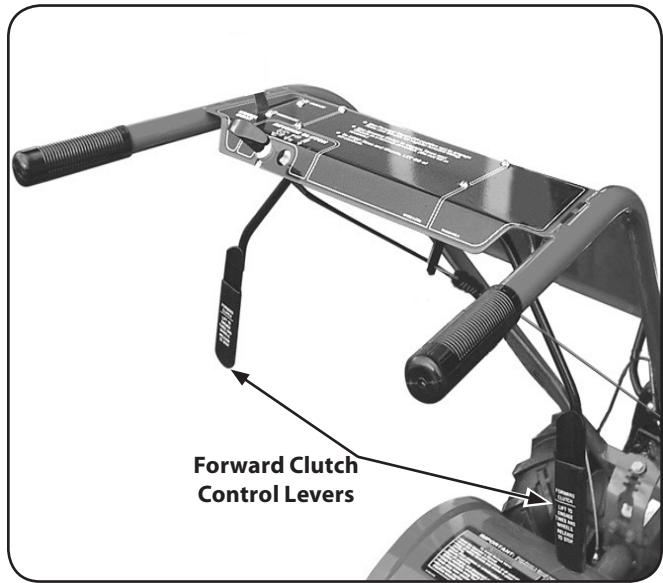

**Figure 3-5**
1. Carefully unwrap the reverse clutch control cable from its shipping position and route it up along the inside edge of the left side handlebar. See Figure 3-5. A knob and large hex nut is installed on the cable.